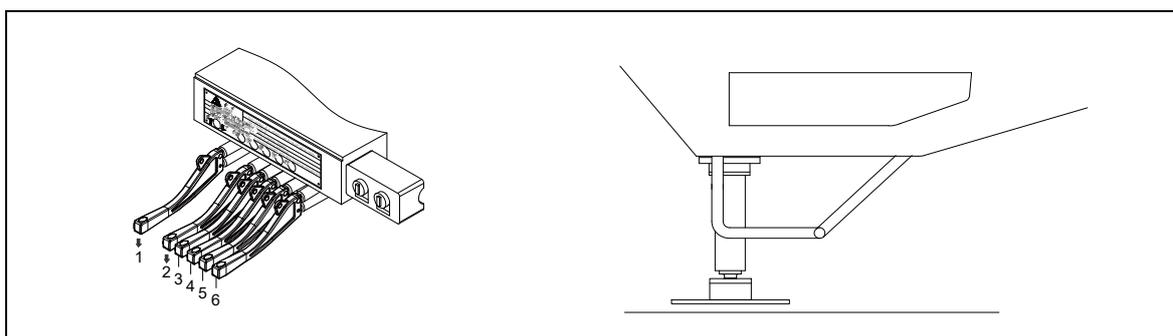

Figure 4-60 Extending the 5th outrigger
- Push the selection control lever (2) of the 5th outrigger downward;
- Push the control lever (1) downward to extend the 5th outrigger.
- Keep a clearance of 5-10mm from the outrigger to the ground, as shown in Figure 4-60.